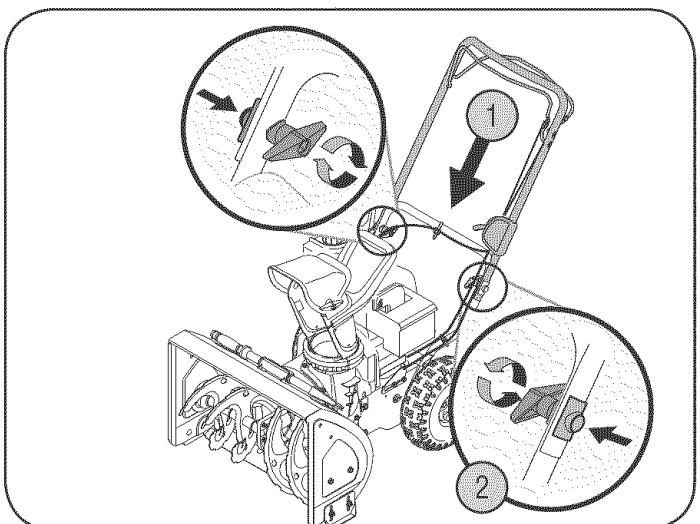

Figure 3
5. Insert a carriage screw from the outside through a handle tab, the upper and lower handles, a saddle washer and into the wing knob (2). Repeat on the other side.
6. Tighten the wing knobs on each side of the handle. Refer to Figure 3.